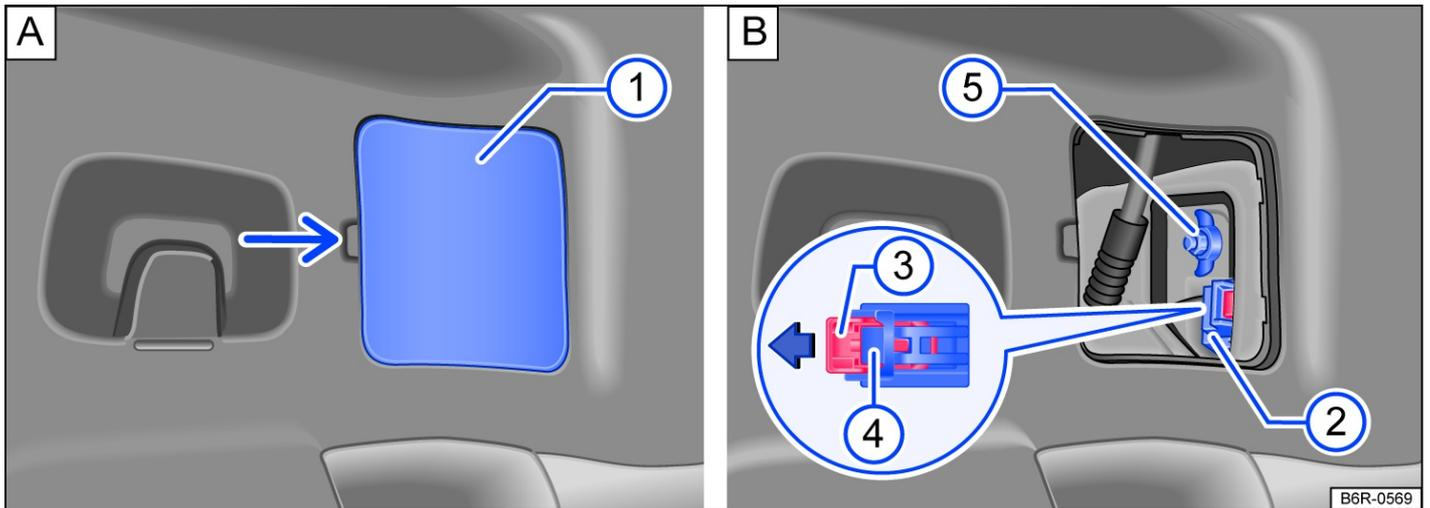

Fig. 1 In the side of the luggage compartment: **A**: removing the cover, **B**: removing the tail light cluster.
3. Carefully lever off the cover (1) *→ Fig. 1 A*.
4. Pull the catch (3) on the connector (2) in the direction of the arrow *→ Fig. 1 B*. Use the screwdriver from the vehicle toolkit for this purpose.
5. Press the catch (4) and pull off the connector (2) *→ Fig. 1 B*.
6. Unscrew the wing nut (5) *→ Fig. 1 B*.